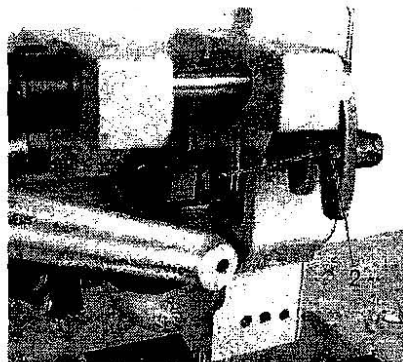

Fig.33
20. THE CLEARANCE OF THE VIBRATING AND LIFTING PRESSER FEET (Fig. 33)